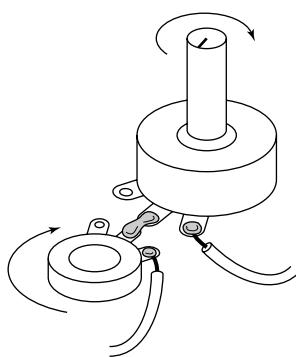

FIGURE 9-24: Turn trimmer dial away from an outside wired lug; turn main pot shaft toward an outside wired lug.
2. Turn the trimmer's dial to full resistance (away from an outside soldered lug) and turn the large pot's dial to no resistance (toward an outside soldered lug, see Figure 9-24).